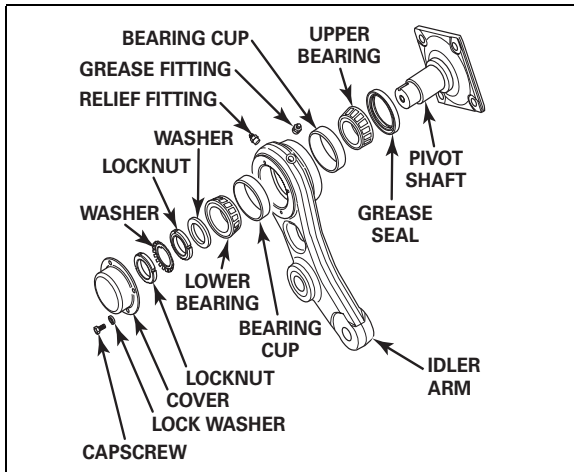

Figure 7.18
1. Install the upper and lower bearing cups into the idler arm. Figure 7.18.